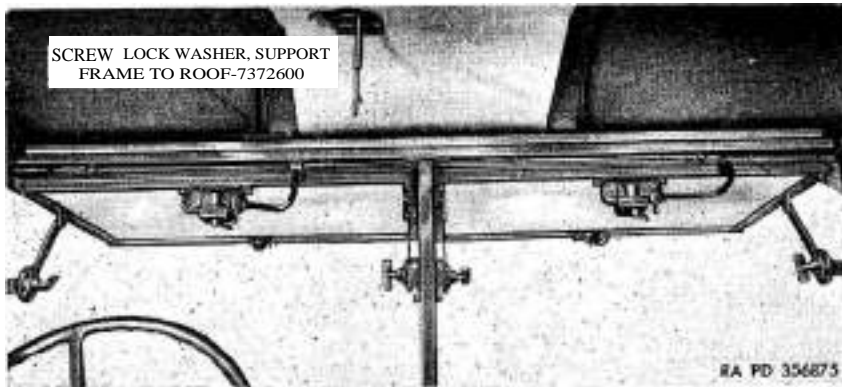

Figure 202. Roof to windshield and support frame assembly attaching screws.
- (1) Remove seven lock washer screws, which attach the roof to the windshields and support frame assembly (*fig. 202*).